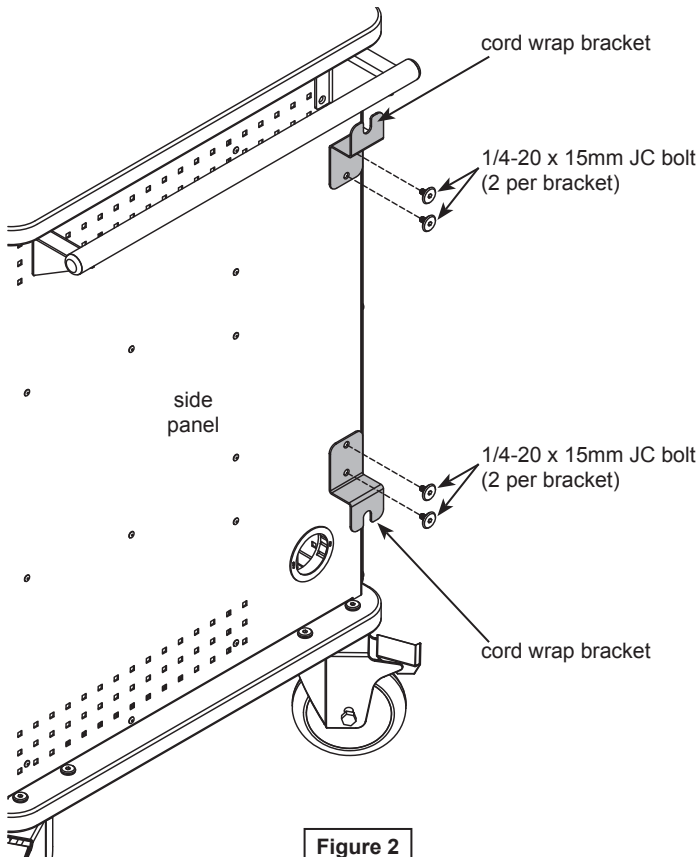

Figure 2
1. Attach the cord wrap brackets to the side panels (left and right-side) with 1/4-20 x 15mm JC bolts as shown in **Figure 2** and tighten securely. Be sure the brackets are facing away from each other as shown.